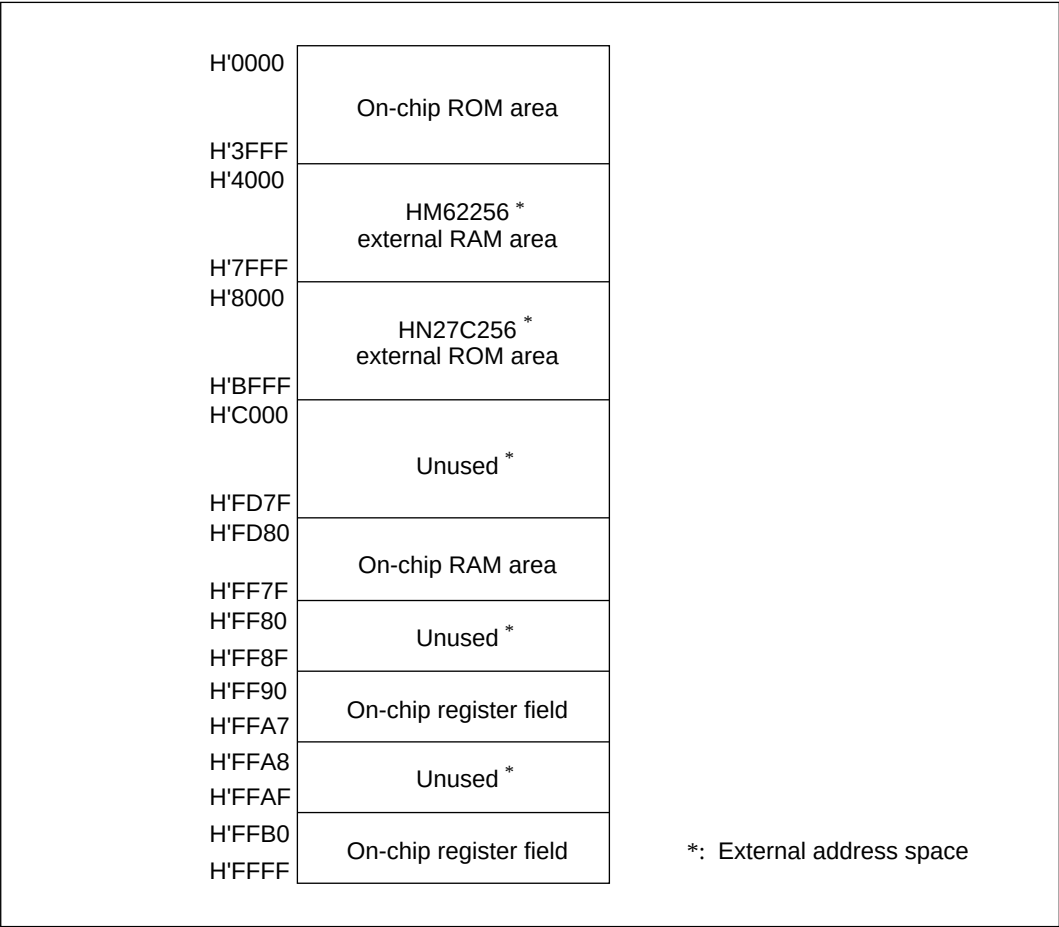

Figure 2 Memory Map
2. The HN27C256 and HM62256 are allocated as shown in figure 2.